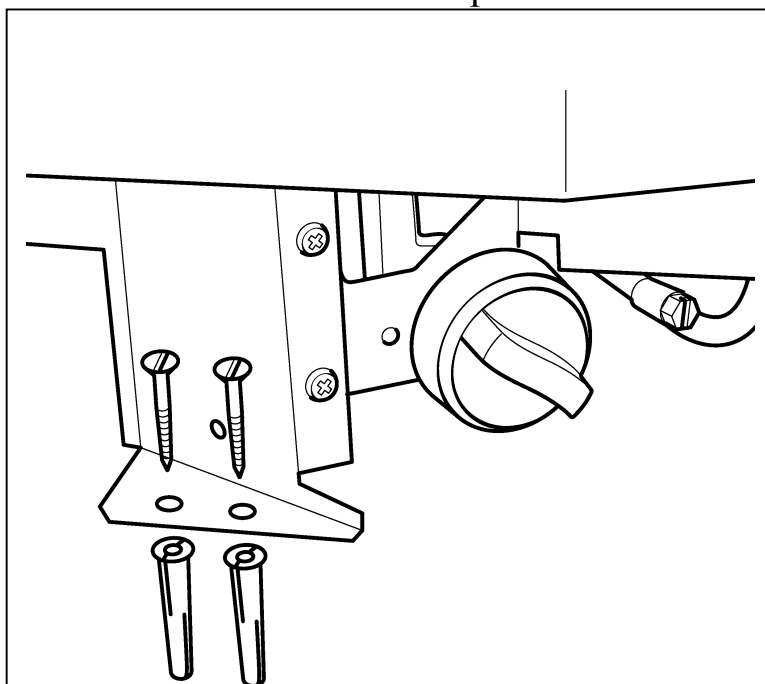

Figure 7. Locating the burner (Method 1)
- Replace the burner assembly and fix in position using the wood screws provided (See figure 7)